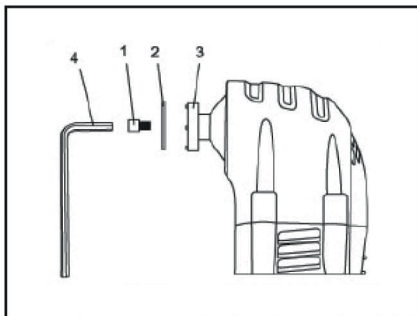

Fig. 1
1. Remove the screw (1) and washer (2) from the accessory holder (3) by turning the screw counter clockwise. Use the 5mm Hex key (4) if the screw is too tight to be removed by hand (Fig. 1)